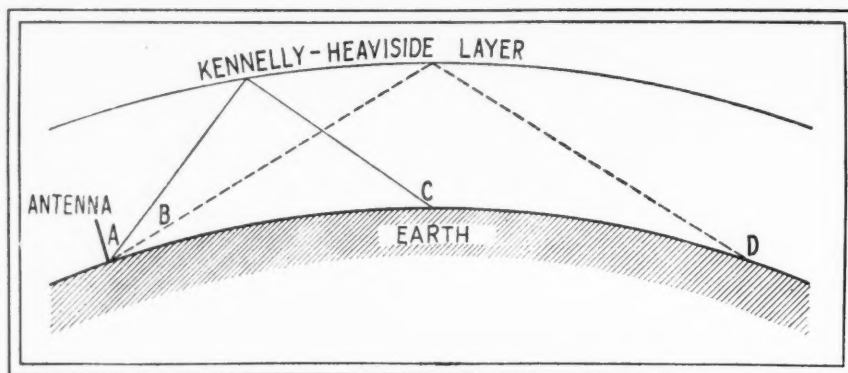

FIG. 2. ILLUSTRATING THE "SKIP-DISTANCE" EFFECT, AS EXPLAINED IN THE TEXT
Since the absorption of extremely short wavelengths is negligible in the Kennelly-Heaviside layer, and the skip distance is long, as shown in Fig. 1, strong signals should be received from stations located at great distances. The line (A) in Fig. 2 shows the possible angle of radiation from a certain type of antenna adjusted to 25 meters. The primary skip distance depends entirely on the angle of radiation and the height of the Kennelly-Heaviside layer. It is possible, by employing plane antennae and reflectors, to concentrate the antenna radiation at an angle most advantageous for reception at a given distance. For extreme distances, it would be possible to control the radiation angle to increase the skip distance, and thus increase the signal strength from three to four times at the receiving station. The line B shows how the radiation angle may be changed so as to reach point D on the earth. Note that the 40° angle would give strong signals at C and diminish in strength toward D. Radiation angle B would skip over position C and produce strong signals at position D.